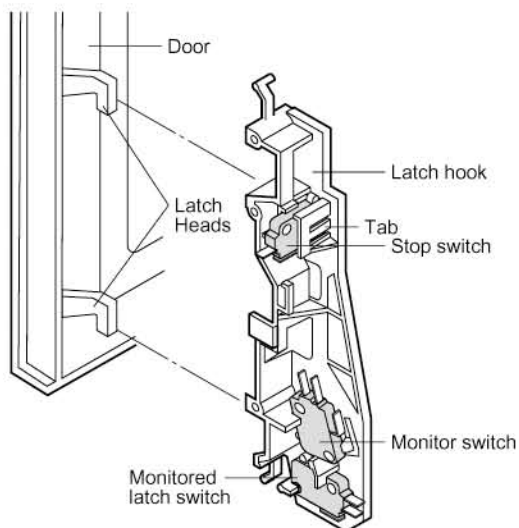

Figure C-7 Latch Switches Adjustment
6. Insert an putty knife (thickness of about 0.5mm) into the gap between the choke cover and door frame as shown in Figure C-7 to free engaging parts.